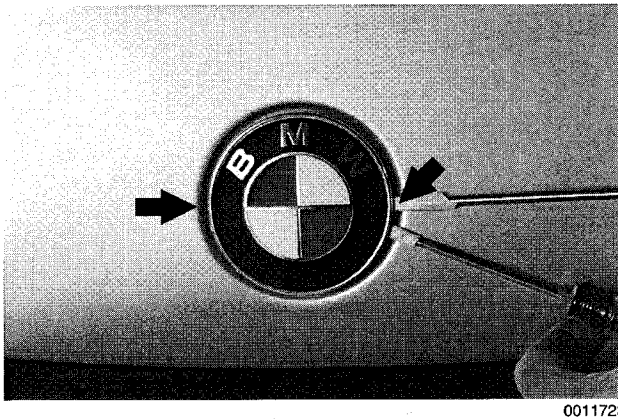

Fig. 15. BMW emblem being removed. Pry up emblem carefully on either side (**arrows**). Note tape on screwdriver tips.
2. Carefully pry out emblem. See Fig. 15.